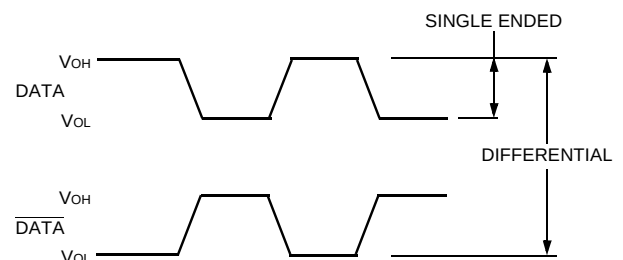

Figure 2. Data Input/Output Logic Level Definitions
* 50 ¾ load, measured single ended. Differential operation is necessary for optimum performance. (See Figure 2 for visual representation.)
† 50 ¾ load, measured single ended. Differential operation is necessary for optimum performance.(See Figure 2 for visual representation.)